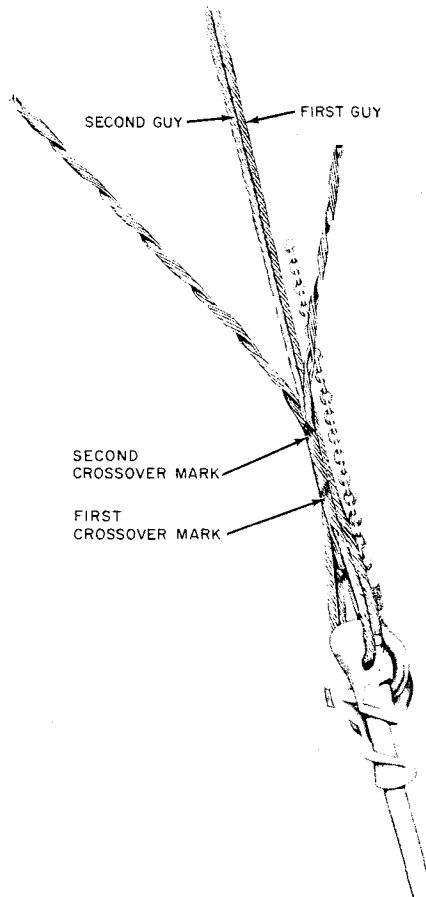

Fig. 22—Legs Applied to Crossover Points
- (d) Apply the legs of the strand grip as described in 4.04(b) through (d), but the legs should be wrapped **only** to the **second crossover mark**, or for 16M and 25M sizes where there is only one crossover mark, apply **one wrap**. (See Fig. 22.)